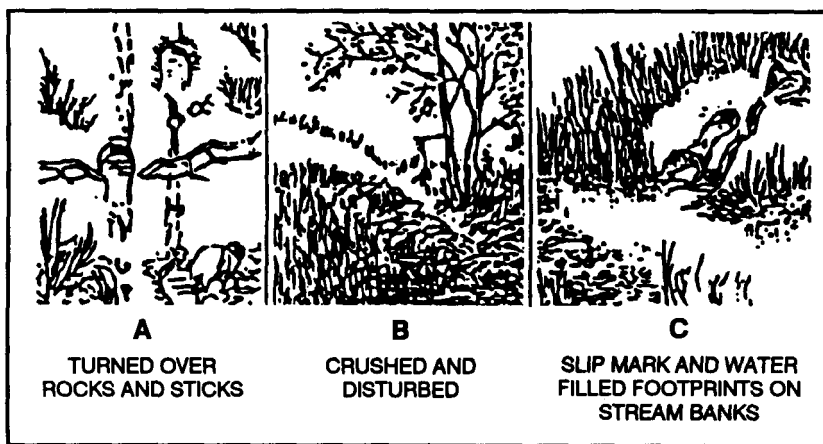

Figure 8-4. Other displacements.
c. **Recognizing Other Signs of Displacement** Foliage, moss, vines, sticks, or rocks that are scuffed or snagged from their original position form valuable indicators. Vines may be dragged, dew droplets displaced, or stones and sticks overturned (A, Figure 8-4) to show a different color underneath. Grass or other vegetation may be bent or broken in the direction of movement (B, Figure 8-4).
(1) The sniper inspects all areas for bits of clothing, threads, or dirt from footwear that can be torn or can fall and be left on thorns, snags, or the ground.
(2) Flushed from their natural habitat, wild animals and birds are another example of displacement. Cries of birds excited by unnatural movement is an indicator; moving tops of tall grass or brush on a windless day indicates that someone is moving the vegetation.
(3) Changes in the normal life of insects and spiders may indicate that someone has recently passed. Valuable clues are disturbed bees, ant holes uncovered by someone moving over them, or torn spider webs. Spiders often spin webs across open areas, trails, or roads to trap flying insects. If the tracked person does not avoid these webs, he leaves an indicator to an observant sniper.
(4) If the person being followed tries to use a stream to cover his trail, the sniper can still follow successfully. Algae and other water plants can be displaced by lost footing or by careless walking. Rocks can be displaced from their original position or overturned to indicate a lighter or darker color on the opposite side. The person entering or exiting a stream creates slide marks or footprints, or scuffs the bark on roots or sticks (C, Figure 8-4). Normally, a person or animal seeks the path of least resistance; therefore, when searching the stream for an indication of departures, snipers will find signs in open areas along the banks.